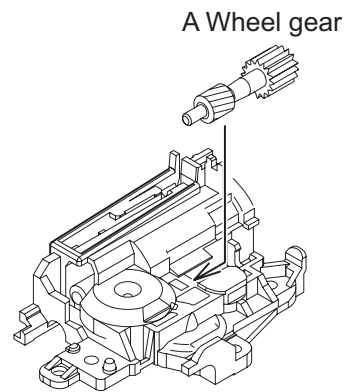

Fig.15
3.2.9 Removing the Loading motor (See Fig.15 to 18)
- (1) Remove the A wheel gear. (See Fig.15)